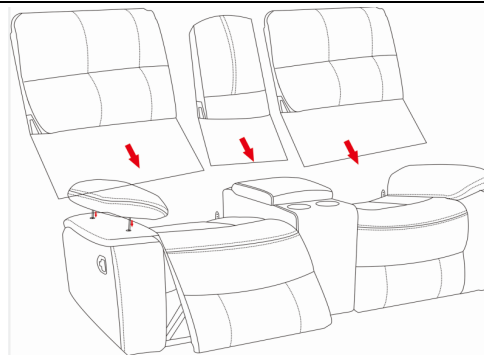

fig.3
- 1.Carefully align connecting hooks & holes into position and lock them to secure the mechanism. See fig. 3
- 3.Engage the Metal Locks and push fit. You should hear them lock into position See fig. 3
- 4.Paste the velcro on the flag of the Back Cushions onto the back of Seat Cushions. See fig. 3
- 5.Insert the armrest pieces into the armrest ,See fig. 3